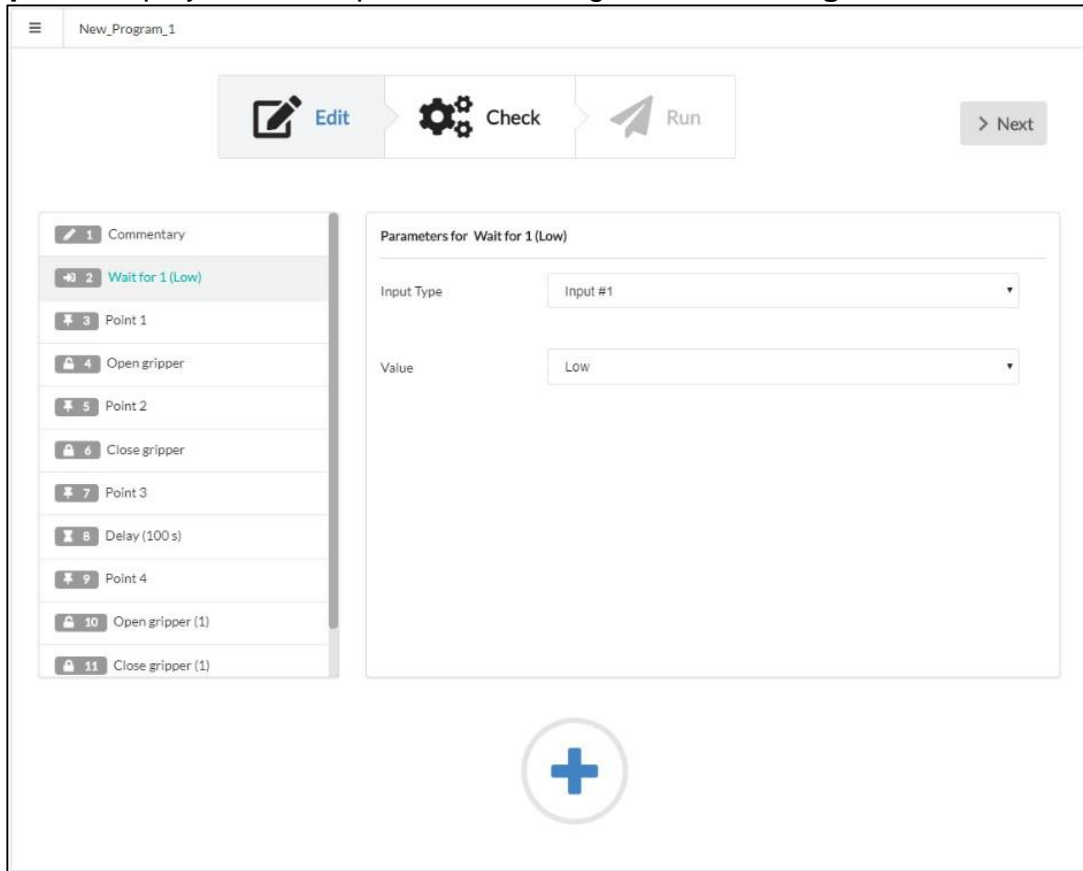

Figure 5-5: Setting parameters for the “Wait for” command
1. In the **Program Body**, select the required **Wait for** command line. The **Service panel** displays fields for parameter setting as shown in **Figure 5-5** below.